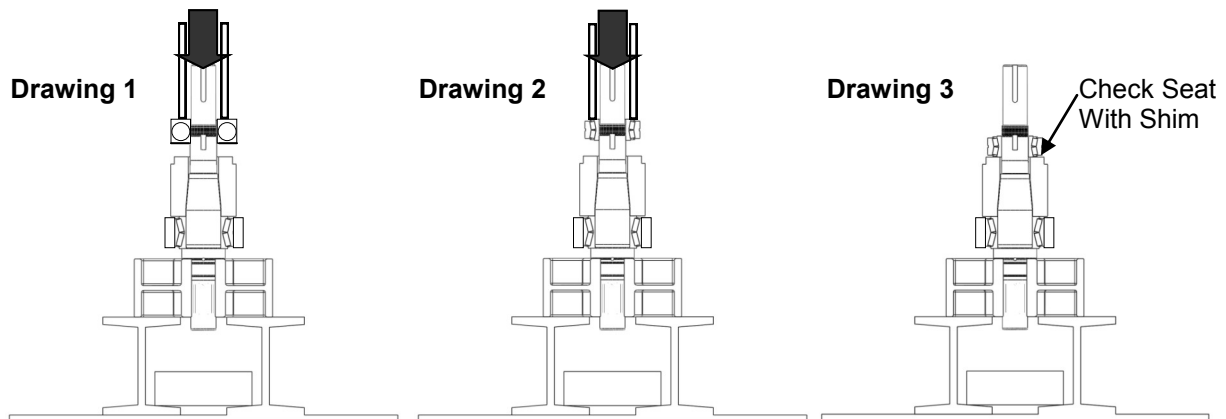

Figure 44: Pressing Rear Bearing onto Shaft
- For pump models with single ball bearings apply a light coat of lubricant on the shaft. Open the new rear bearing assembly and place it over the shaft above the bearing spacer with the shielded side of the bearing facing the spacer (Figure 44, Drawing 1). Press the bearing on pressing only on the inner race.
- For pump models with tapered roller bearings, apply a light coat of lubricant on the shaft. Open the new rear bearing assembly and do not interchange any parts. Place the rear bearing over the shaft above the bearing spacer (Figure 44, Drawing 2). Reference Table 5 for the required force (in tons) needed to press the bearing onto the shaft. Using a sleeve that rests on the inner cone of the bearing and rides over the shaft, press the bearing on until it seats against the spacer.
Make sure the bearing is rested on the bearing spacer using a shim (Figure 44, Drawing 3).